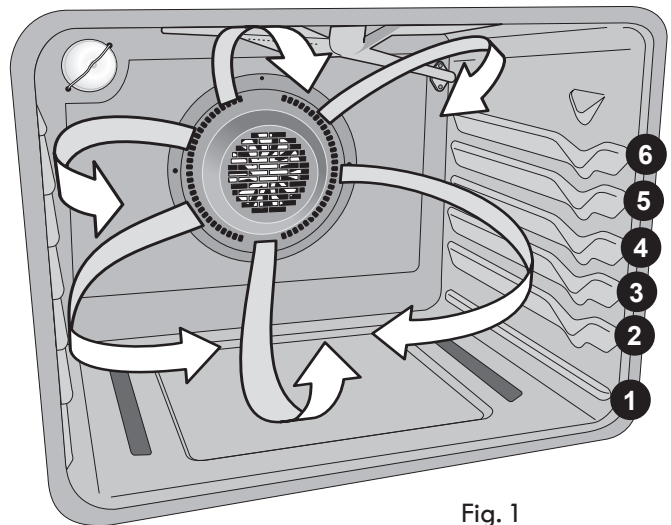

Fig. 1
Convection uses a fan to circulate the oven's heat uniformly and continuously around the oven (See Fig. 1). This improved heat distribution allows for fast, even cooking and browning results. It also gives better baking results when using two racks at the same time. Heated air flows around the food from all sides, sealing in juices and flavors. Meats cooked with Convection are juicer. Poultry is crisp on the outside while staying tender and moist on the inside. Breads and pastry brown more evenly. Most foods baked in a standard oven will bake faster and more evenly with the Convection feature.
- When using 2 oven racks at the same time, place in oven rack positions 2 & 4 for best results (See Fig. 1). Please note that layer cakes will have better results using the Bake function.